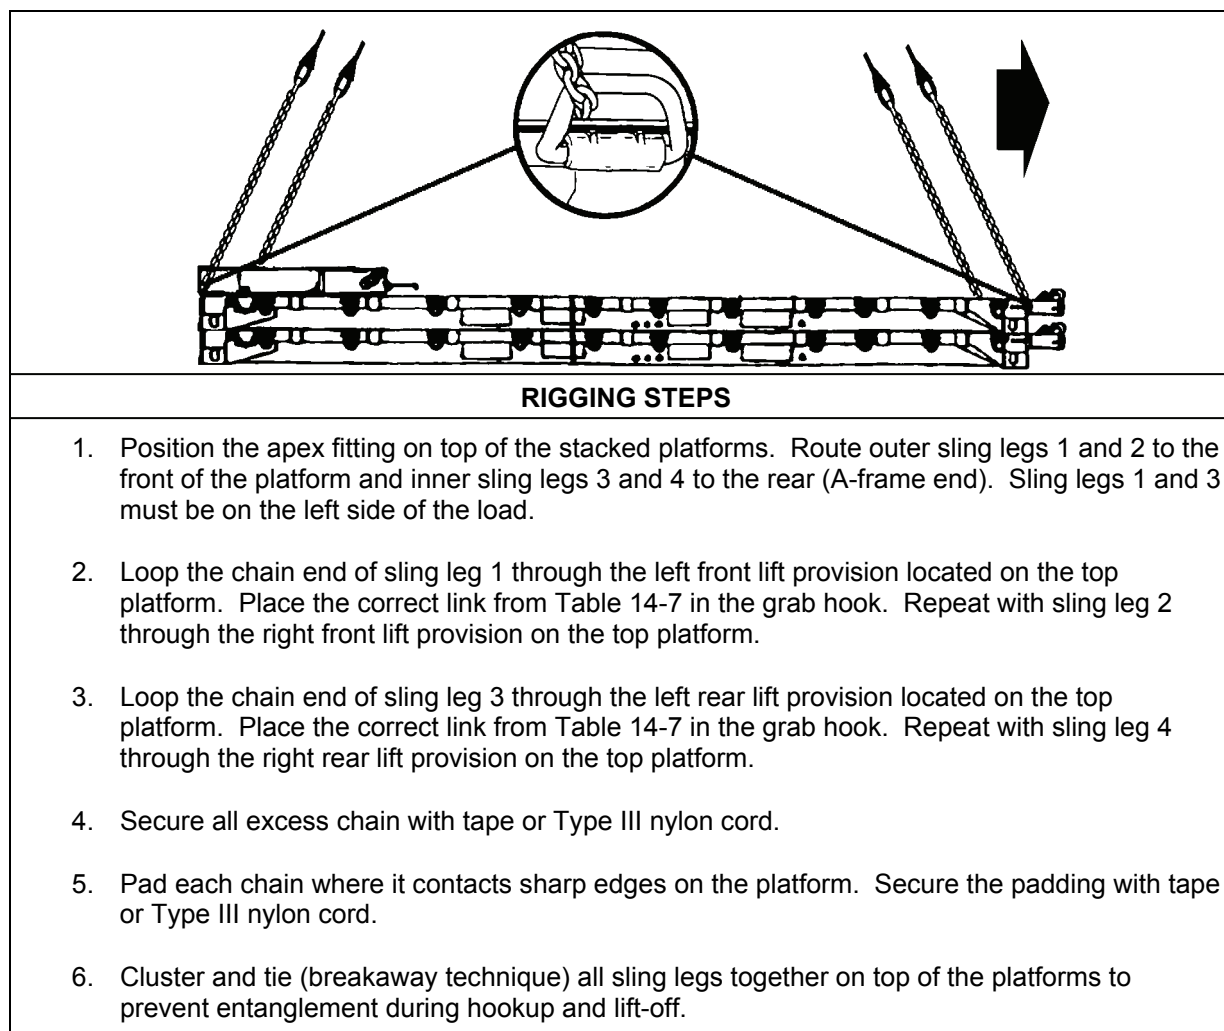

Figure 14-7. Container Roll-in/out Platform, M3/M3A1, Two Empty Platforms, Stacked
- **Rigging.** Rig the load according to the steps in Figure 14-7.